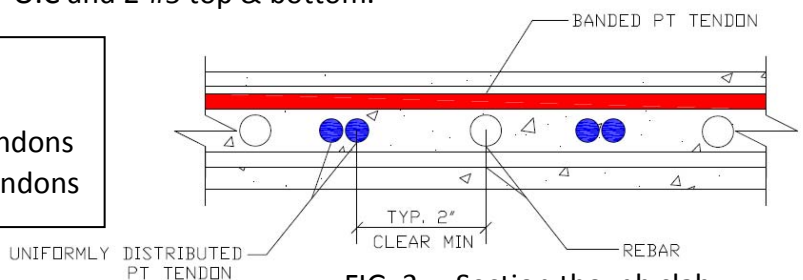

FIG. 3 : Section through slab
A two way post-tension slab construction is used on for all floors. The tendons are unbounded and span in both directions with a minimum of (2) tendons above columns (Fig. 3). Banded and uniformed distributed tendons are used. Bundles size varies but restricted to a minimum of 4 tendons per bundle. The 7 ½" slab is reinforced two-ways with #4@24" bottom mesh reinforcement and #5 top bars at various locations, rebar is also provided around the perimeter. Where tendons and rebar intersect chairs should be placed with #4 ties for lateral stability. Tendons stressing will be done with a hydraulic jack, anchorage blockouts are grouted and tendons cut 1" from slab edge, stressing sequence is as followed; Balconies are conventionally reinforced with #4 @ 12" O.C and 2-#5 top & bottom.